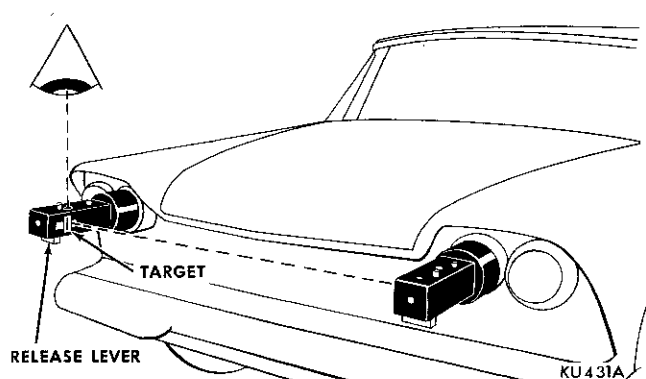

Fig. 4—Mounting and Adjusting the Aimers
Mounting and Adjusting the Aimers (Fig. 4)
(2) While sighting through the viewing port of the aimer, turn the horizontal adjusting screw (Fig. 4) on the headlamp until the split image target line merges into one unbroken line.